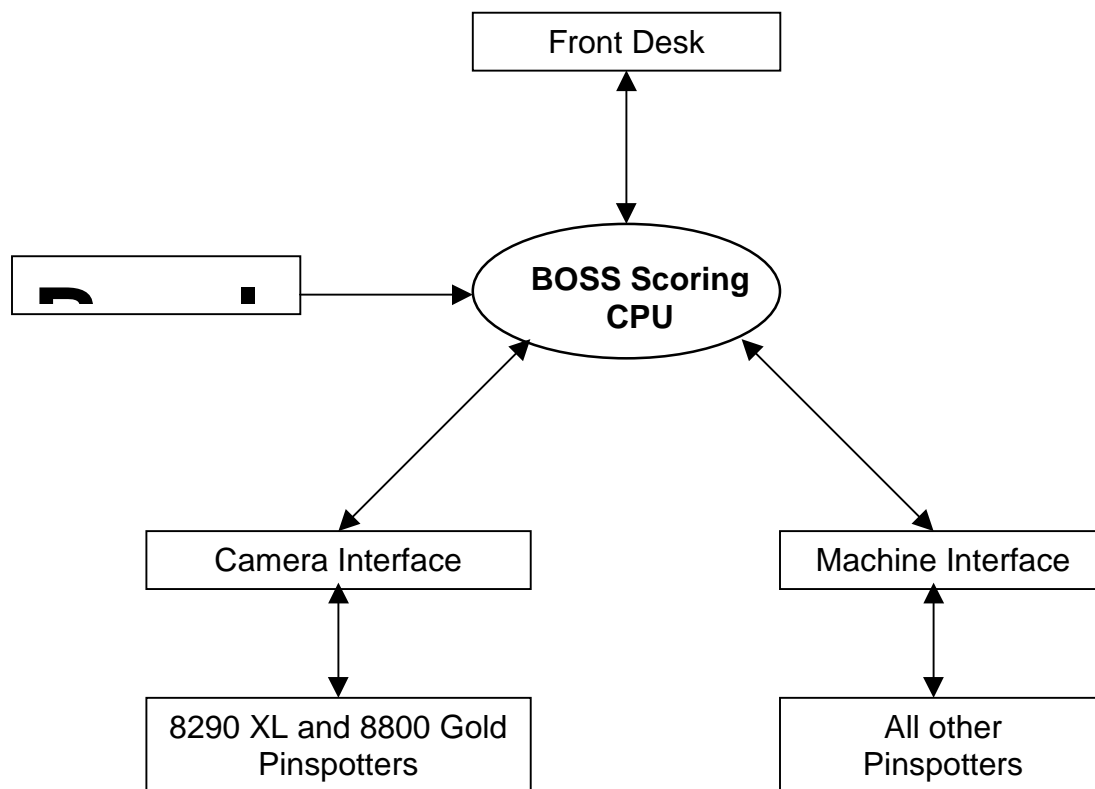

Figure 2-1 System Communications
- Figure 2-1 BOSS™ Scoring System Communications
1. System communications flow as indicated in Figure 2-1. The CPU is the "brain" of the BOSS™ Scoring system, and performs command and control functions.